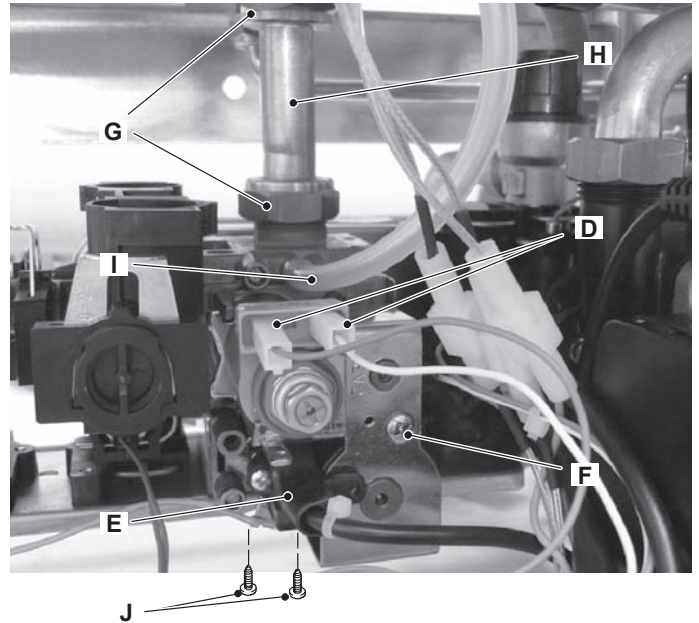

Figure 11.5
- 2 Disconnect the connectors D (Figure 11.5) from the modulating operator and measure the electrical resistance of the coil. Its electrical resistance value must be approx. $80 \Omega^*$.
- 2 Disconnect the electrical connector E (Figure 11.5).
- 2 Disconnect the connector E (Figure 11.5).
- 2 Disconnect the connectors D and E (Figure 11.5).